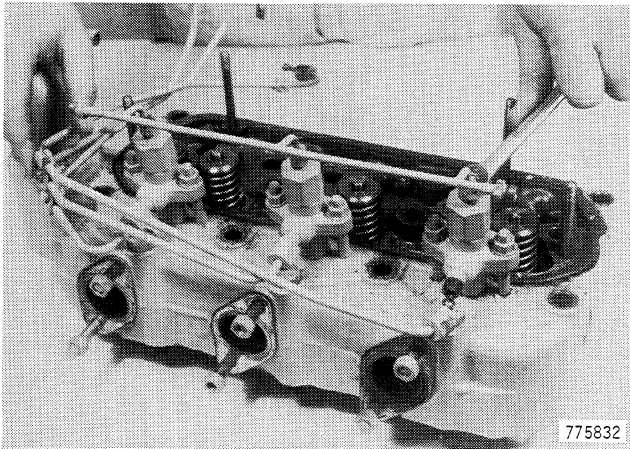

Figure 88
2. Disconnect the tube at the return of the injector, Figure 88.